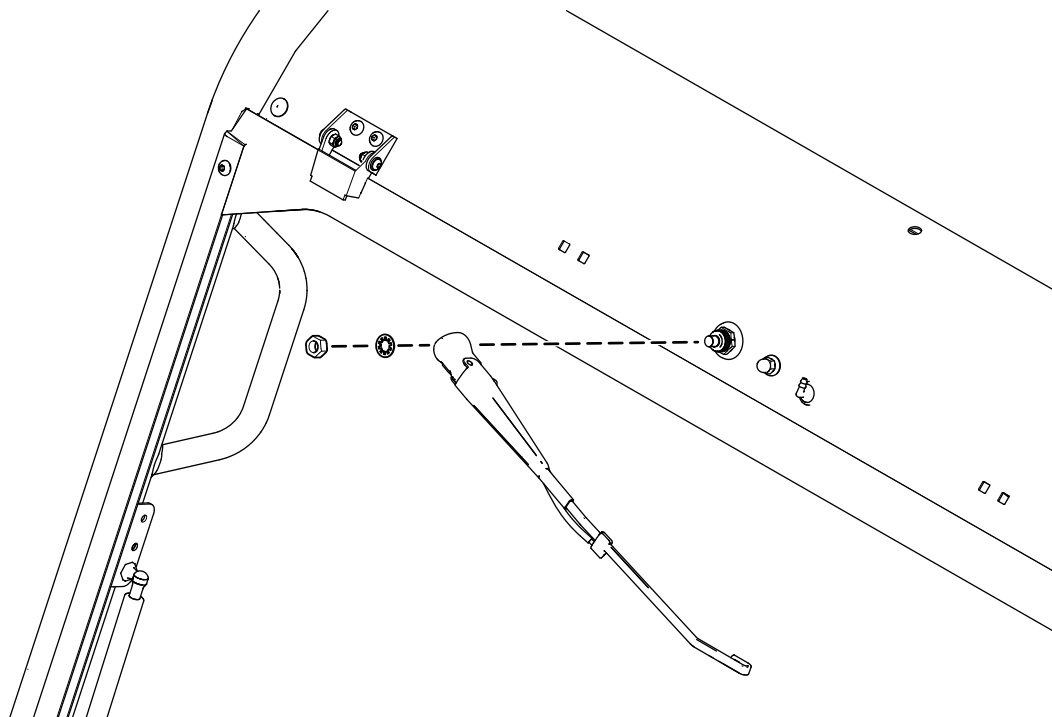

Figure 10
3. While holding the end of the wiper arm with a rag, secure the wiper arm to the motor using the nut and lock washer from the motor assembly (Figure 10).